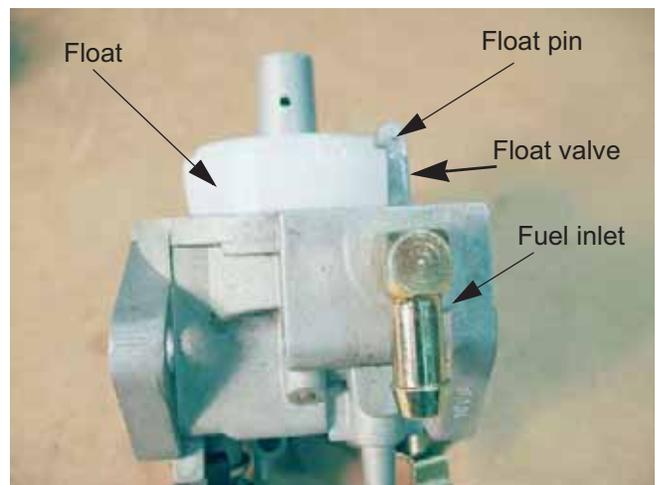

Figure 4.26
7. When inverted, the float should rest in a level position. See Figure 4.26.